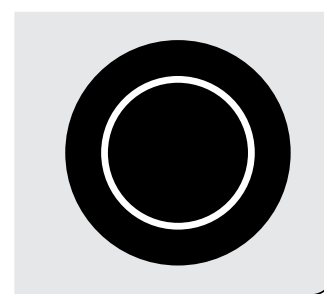

Figure 3
2. Push in and turn the control knob to the inner coil symbol for smaller cookware (Figure 2) or to inner and outer coil symbol for larger cookware (Figure 3). Turn the knob to adjust the setting if needed. Start most cooking operations on a higher setting and then turn to a lower setting to finish cooking. Each surface element provides a constant amount of heat at each setting. A glowing red surface heating area extending beyond the bottom edge of the cookware indicates the cookware is **too small** for the surface heating area.